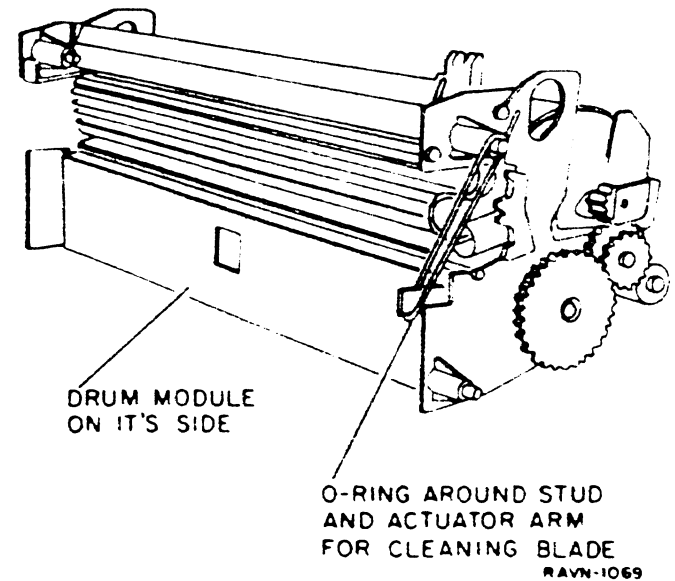

Figure 2. Protecting the Drum Module
5. PROTECT DRUM MODULE (FIGURE 2).
- Place module on its left side, as shown in Figure 2, to avoid damage to drum.